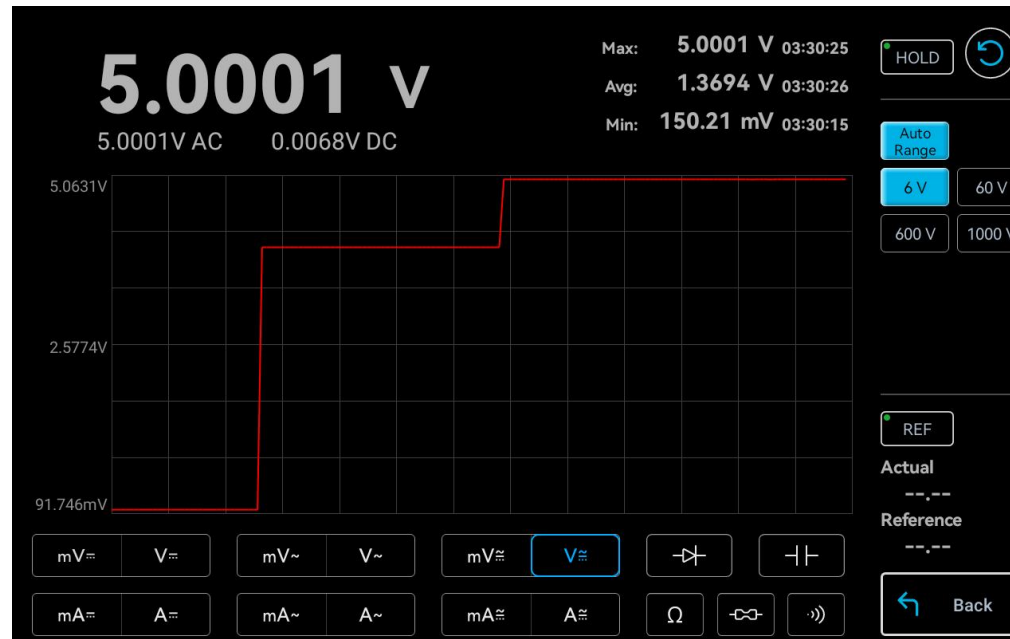

Figure 8-5 AC+DC Voltage Measurement (V)
Test Steps: Select to enable the AC+DC voltage measurement (V) in the measurement item selection area , as shown in Figure 8-5.